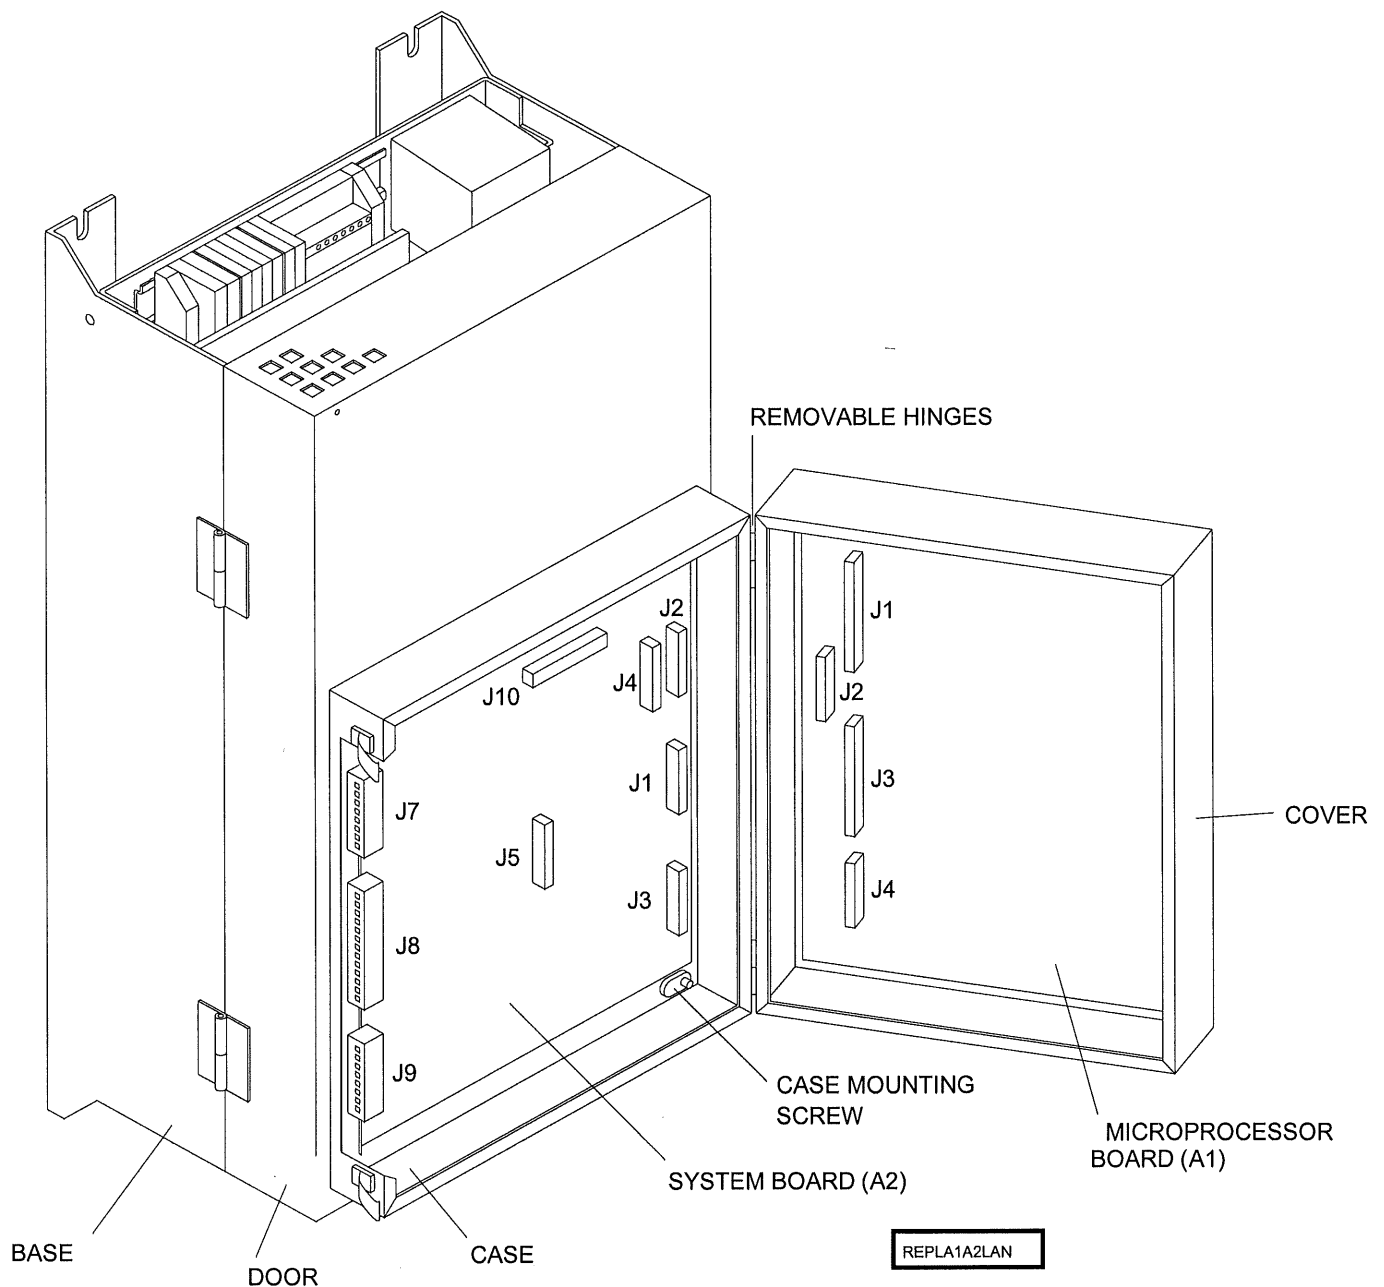

Figure 7-1. Replacing System and Microprocessor Boards
#### 7.3.1 REPLACING MICROPROCESSOR BOARD (A1) (Refer to Figure 7-1.)
#### 7.3.2 REPLACING SYSTEM BOARD (A2) (Refer to Figure 7-1.)
3. Remove system interconnections (J4, J5, J6) from system board, shown in Figure 7-1.